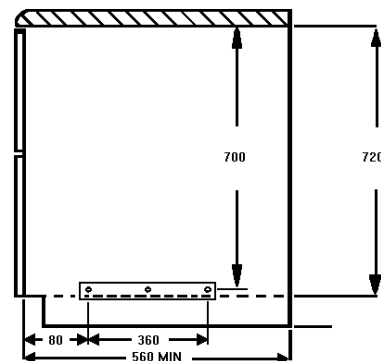

Fig.2
- This appliance is designed to be fitted between cabinets with the recommended dimensions as shown in Figs. 2 and 3.